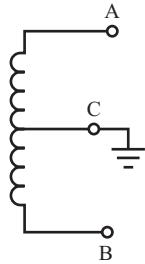

FIGURE 10.14
7. In the center-tapped secondary winding shown in Figure 10.14, the voltage between points A and B may be expressed as $V_{A-B} = 28 \text{ V}_{pp}$. What is the voltage between C and A? _____
8. In the center-tapped secondary winding shown in Figure 10.14, the voltage between points B and C is $V_{B-C} = 5 \text{ V}_{rms}$. What is the peak-to-peak voltage between A and B? _____